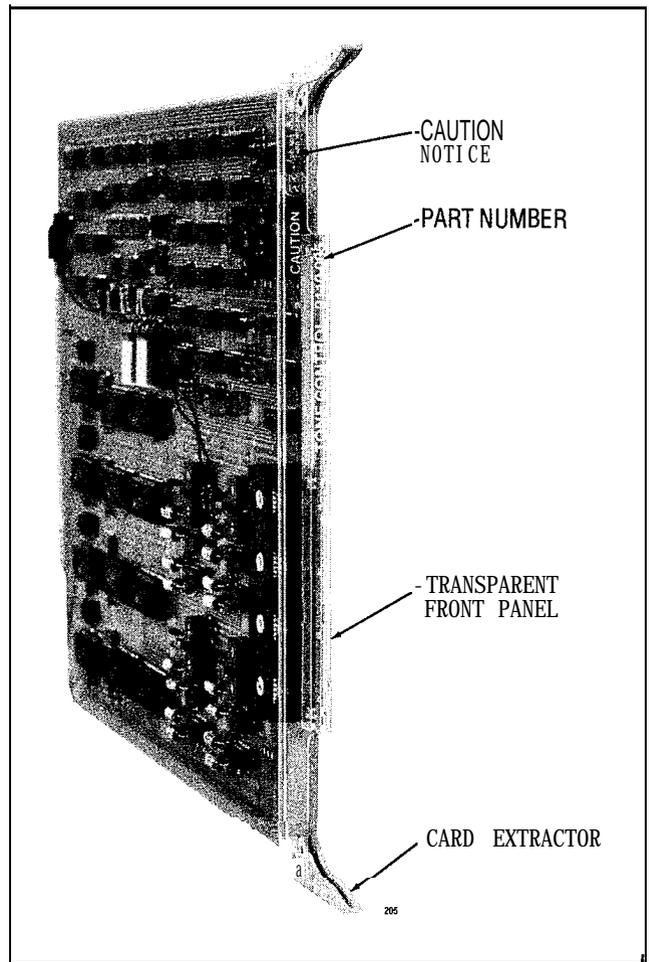

Fig. 2-4 Typical Circuit Card
2.13 The circuit cards (Fig. 2-4) used in the equipment shelves measure 10in. (254mm) high, 13in. (330mm) deep, and are manufactured from fiberglass board. The light emitting diodes (LEDs) mounted at the front of each card indicate the operational status of the card. The transparent front panel protects the LEDs while allowing their status to be observed.
2.14 On the front panel of each card, is the card part number and its type. Cards which must not be removed or inserted while the system power is on carry a Caution notice as shown in Fig. 2-4.